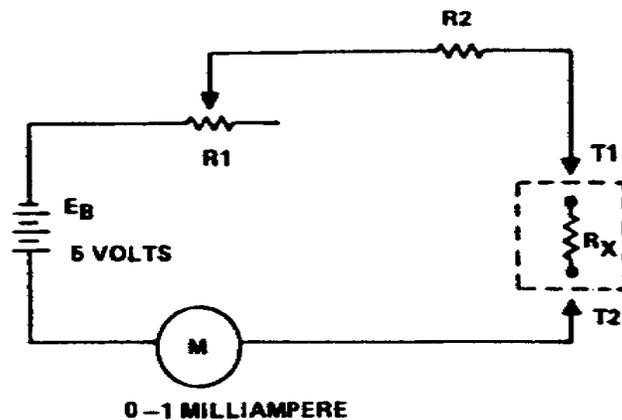

Figure 1-17. Typical ohmmeter scale
5. Ohmmeter. Despite its usefulness as a resistance-measuring device, the ohmmeter is comparatively inaccurate. It is used only where resistance measurements need not be extremely accurate. A good rule to remember when you are using an ohmmeter, such as shown in Figure 1-17, is that the highest reading that can be obtained with acceptable accuracy is approximately ten times the mid-scale reading, and the lowest reading is approximately one-tenth of the mid-scale reading.
c. For mid-scale reading, the size of Rx (fig 1-17) between terminals T1 and T2 must be of a value to limit current to 0.5 milliamperere. Thus the total resistance of the circuit of half-scale deflection is 10,000 ohms.